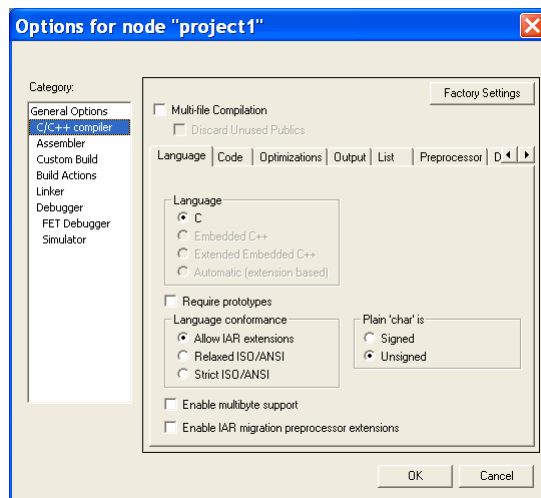

Figure 5. Setting C/C++ compiler options.
3.2. Select *C/C++ Compiler* in the Category list to display the compiler option pages (Figure 5).